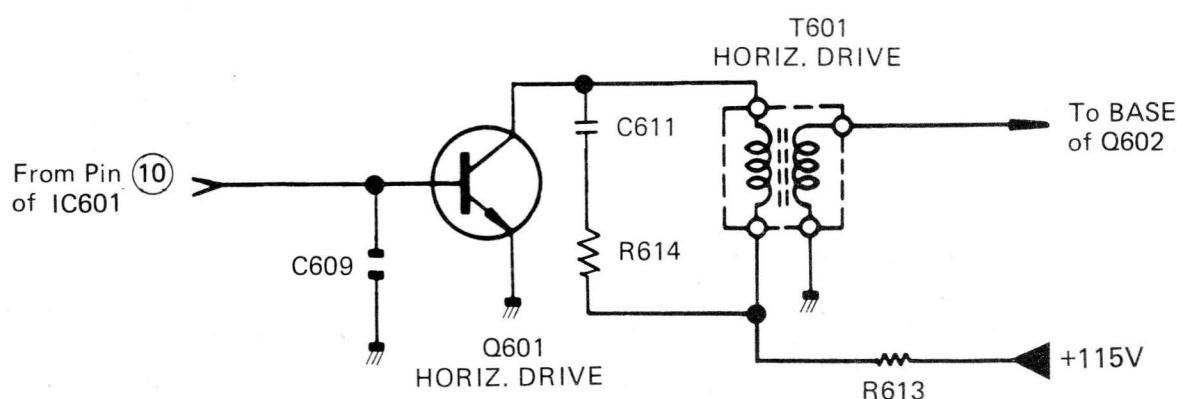
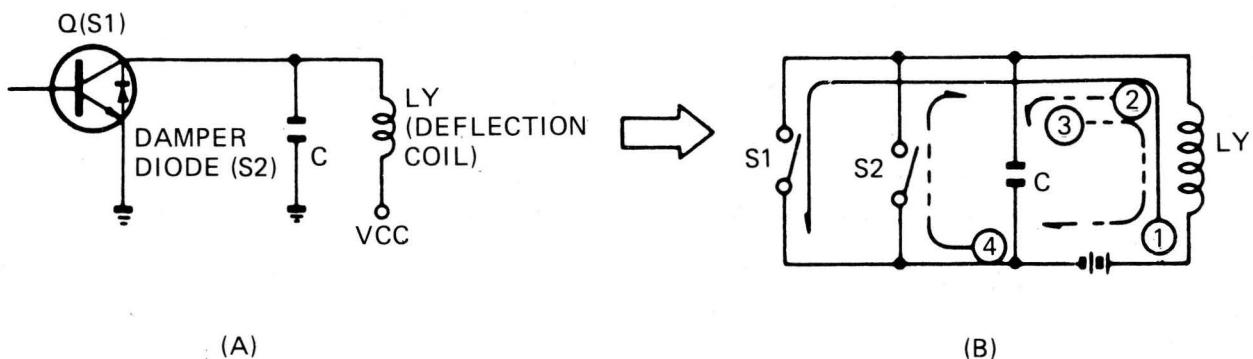

Figure 3. Horizontal Drive Circuit
Figure 4. Equivalent Circuit of Horizontal Output Circuit
The horizontal drive signal, developed at pin (10) of the deflection processor integrated circuit (IC601), is amplified through the horizontal drive stage (Q601) and coupled to the base of the horizontal output circuit via the horizontal drive transformer (T601). Refer to Fig. 3. The horizontal output circuit generates the horizontal scanning signal and a high voltage to be applied to the picture tube. The function of the horizontal output stage (Q602) is to serve as a switch for the horizontal output circuit. Refer to Fig. 4.